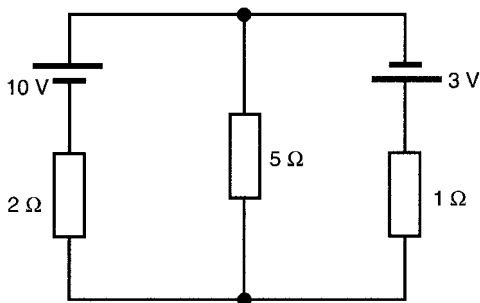

Figure A4.1
- 1 Find the current flowing in the $5\ \Omega$ resistor of the circuit shown in Fig. A4.1 using (a) Kirchhoff's laws, (b) the Superposition theorem, (c) Thévenin's theorem, (d) Norton's theorem. Demonstrate that the same answer results from each method.